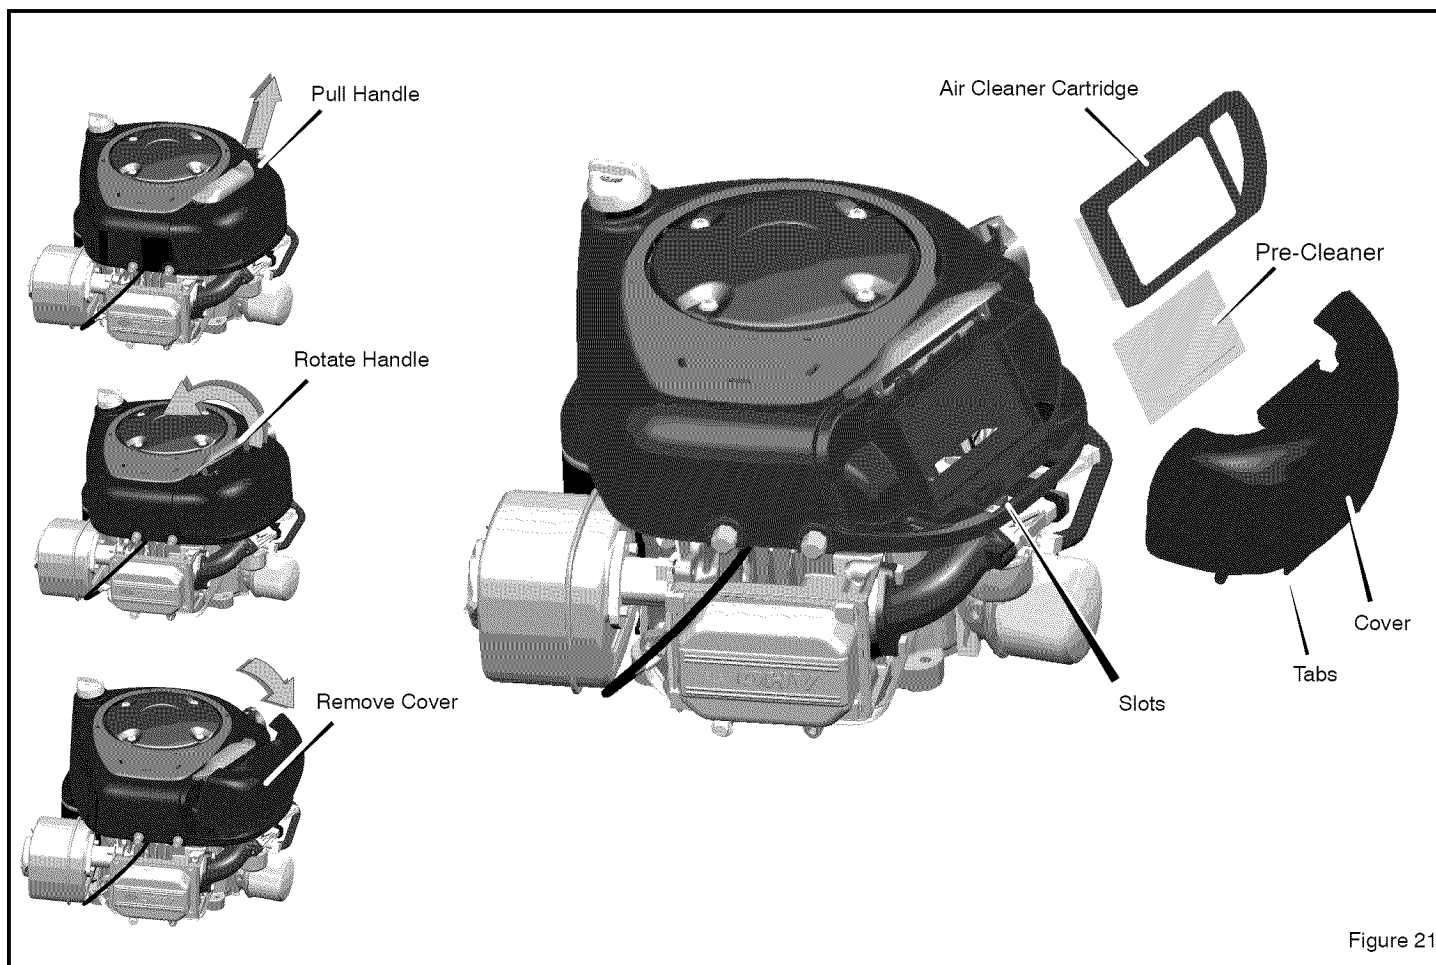

Figure 21
1. Pull up on the **handle** for the air cleaner cover. Rotate the **handle** toward the engine (Figure 21).